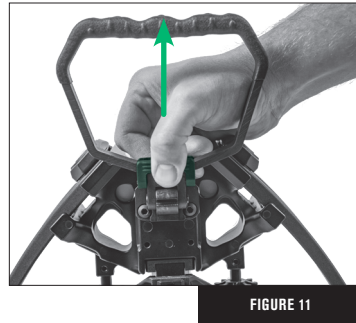

FIGURE 11
- ALWAYS** make sure the crossbow is UNLOADED and the safety switch is in the (S)AFE position.
- To rotate the position of the folding stirrup from the full extend position, lift up the stirrup release lever found at the base of the of the cocking stirrup (Fig. 11).